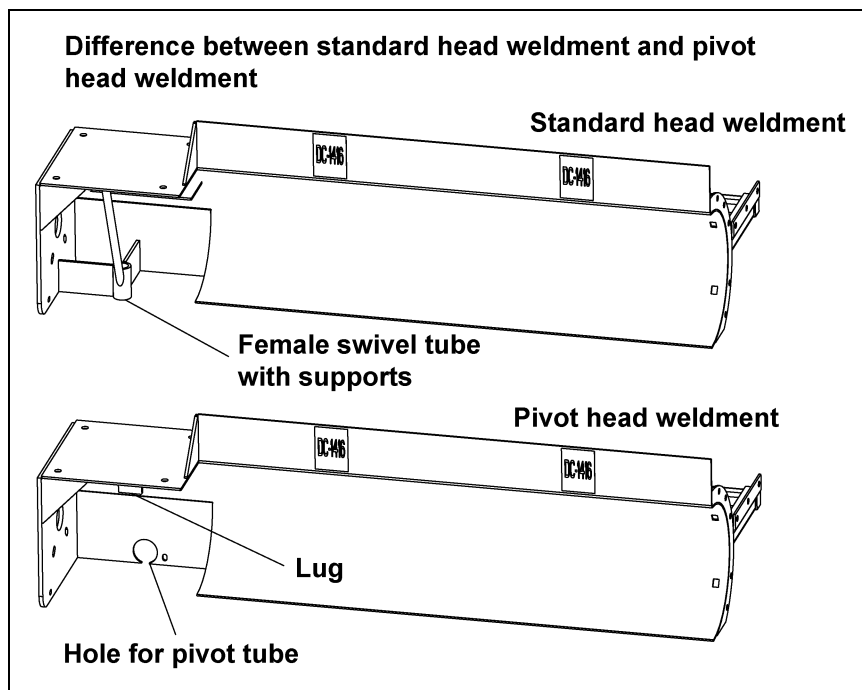

Figure 11A
The following drawing (Figure 11A) is of a 16" pivot sweep head end weldment and a 16" standard sweep head end weldment. There are very few differences between the two. The standard head weldment has the female pivot tube welded to the drive end of the unit. Two (2) plate braces and one pipe brace support this tube. The pivot head weldment has a lug welded to the underside of the motor mount plate. This lug is for attachment of the sweep pivot rod assembly. There is a large hole in the rear plate for the center support tube assembly to pass through. Next to the large hole is a slot that the center support mounts to.